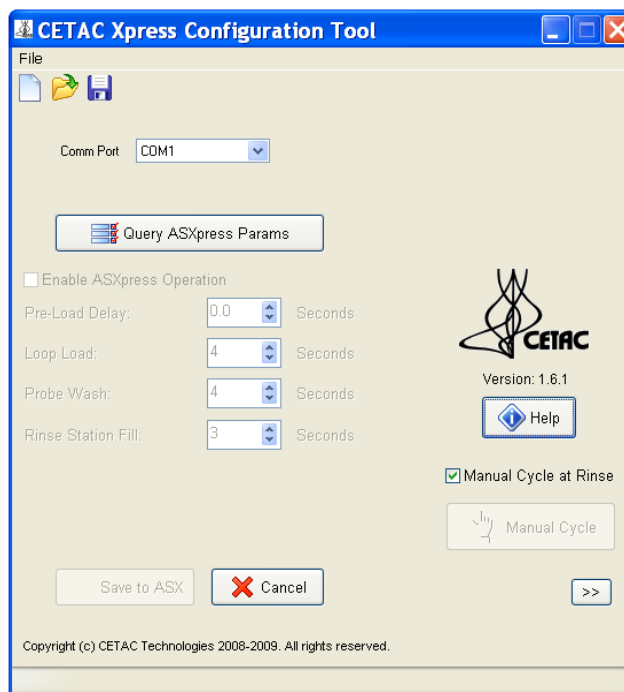

Figure 1-50 *Xpress* Configuration Tool Software Window (pre-query)
1 Open the *Xpress* Configuration Tool Software (Figure 1-50).
- 2 Click on the “Query ASXpress Params” button (this will communicate with the autosampler/*ASXpress*, returning default values in selection boxes, and will make the “Manual Cycle” and “double arrow” arrow buttons available for selection (Figure 1-50).